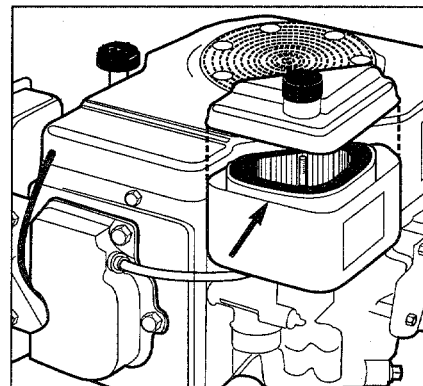

Figure 5-8: 12.5HP / 14HP Kohler engine dual-element air cleaner.
Kohler engines have a dual element air cleaner design— an outer foam pre-cleaner and an inner paper cartridge element. Refer to Figure 5-8 to see the components. Check the air cleaner daily or before starting the engine.
1. Remove the air cleaner cover retaining knob, the external cover, and the paper element with surrounding foam pre-cleaner. See Figure 5-8.
8. Reassemble all components as shown in Figure 5-8. Remember to carefully read the engine manufacturer's literature for additional procedures and requirements.